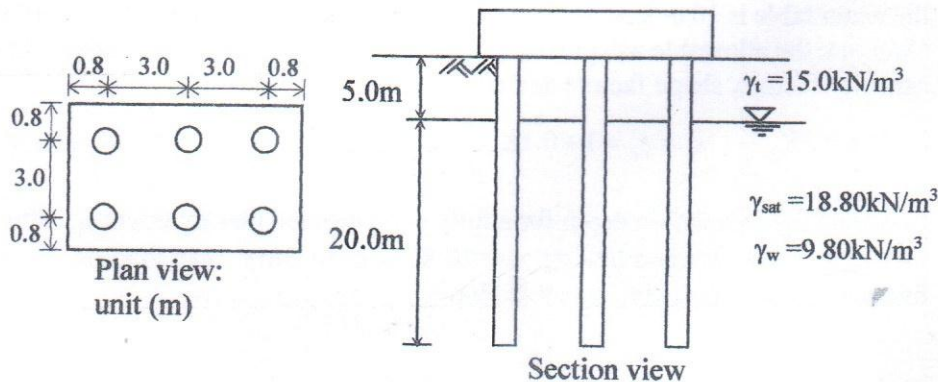

Fig.3
- 4 (a) Briefly describe some features of *Cone Penetration Test*. (5)
- (b) Find the allowable bearing capacity of a group pile (diameter of each pile is 0.60 m, spacing between the piles is 3.0 m center to center, and length of each pile is 25.0 m) shown in Fig.3. The piles are constructed after boring the ground consisting medium sand. The K and δ values are found to be 0.70 and 0.90ϕ , respectively. The angle of internal friction of soil, $\phi = 28^\circ$. Use factor of safety $FS=3.0$ for both skin friction and end bearing. Use, $N_q = \tan^2(45^\circ + \frac{\phi}{2}) \exp(\pi \tan \phi)$, $\eta = 1 - \frac{\theta}{90^\circ} \frac{(n-1)m + (m-1)n}{mn}$ (20)